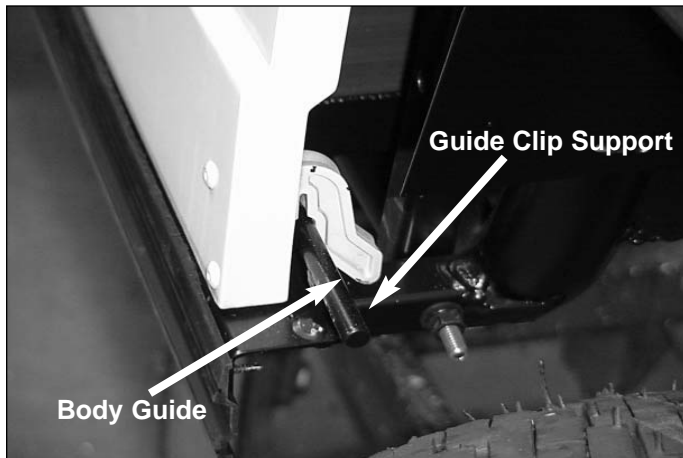

Figure 23-Body Guides
1. Set rear body in place on vehicle, making sure that body guide clips are correctly positioned on chassis supports. See Figure 23.